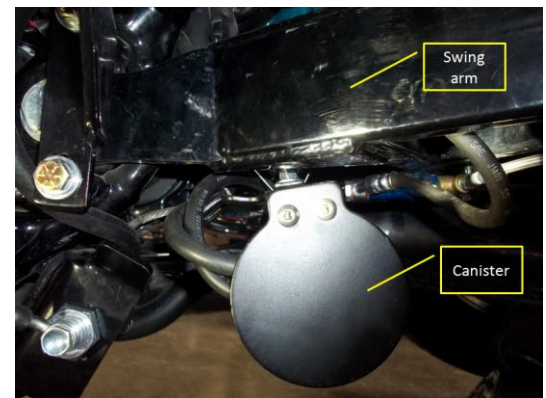

Figure 14
- For California trikes:** Place the charcoal canister underneath the swing arm. Use the provide two holed bracket. Use both 1/4-20x7/8" HHCS with lock washers, washers and nyloc nuts. Slide the #36 clamp between the bracket and charcoal canister. Torque to 8 ft-lbs. See both Figure 14 and Figure 15.